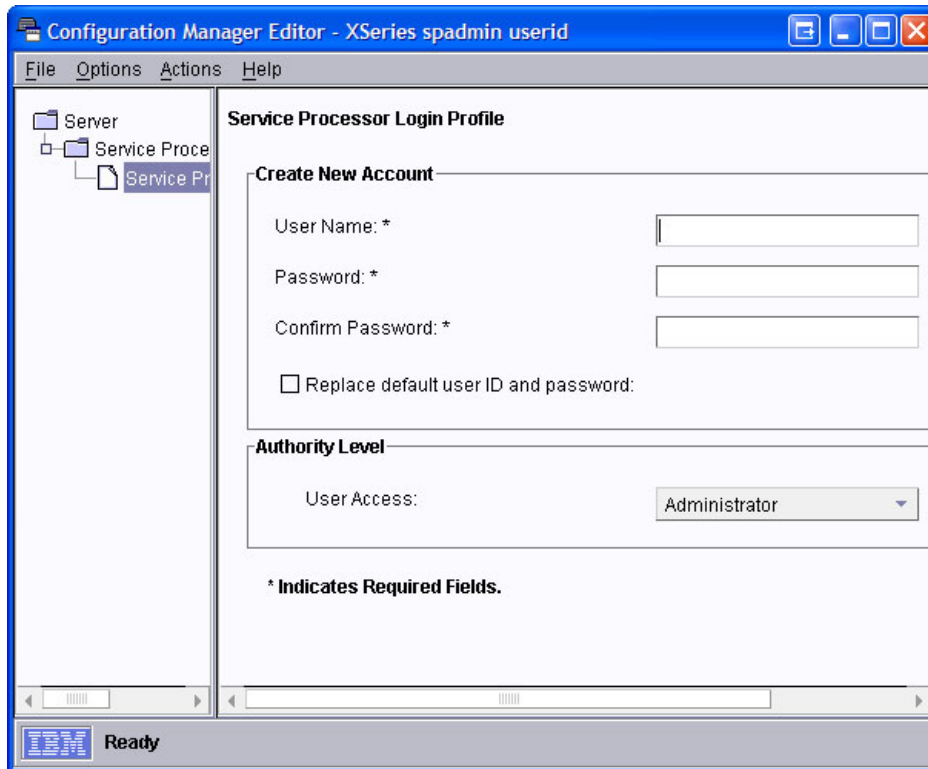

Figure 5-18 Server Configuration Manager: adding a login profile
4. Enter a suitable user name, password, and authority level, as shown in Figure 5-18 on page 191. If you wish to replace the default USERID/PASSWORD combination, check the check box **Replace default user ID and password**.